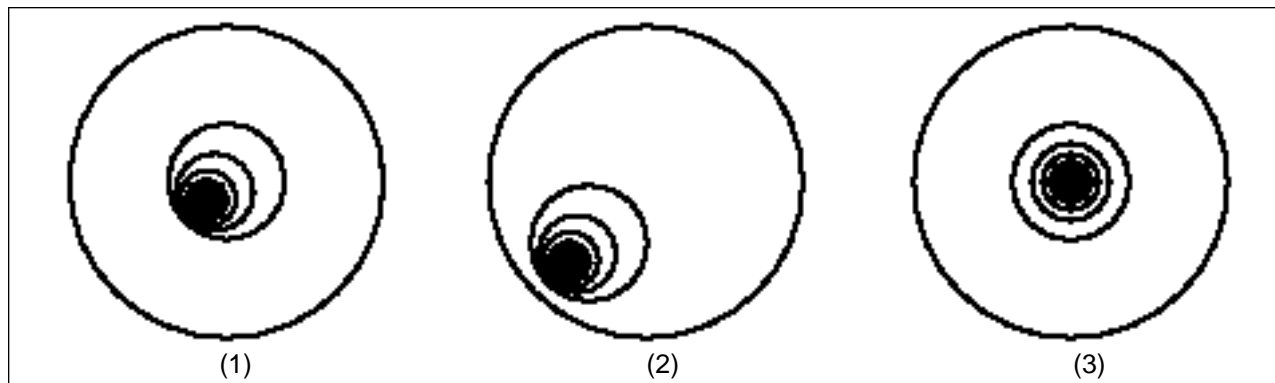

Fig.16: De-focused Star Images.
With the star or hot spot centered, de-focus the image. You will notice that the unfocused star image looks like a ring of light (the dark center of the ring is the shadow of the secondary mirror). Turn the focus knob until the ring of light fills about 1/8th of the eyepiece field. If you keep de-focusing the star past about one-eighth of a field, the ring looks perfectly concentric (as in 3, Fig. 16) even if the optics are out of alignment, thus preventing you from seeing any misalignments. If the ring of light does not appear concentric or if the dark center appears to be offset in the in the ring of light, follow this procedure:
(1), (2), (3) Set-screws for adjusting collimation.
2. While looking at the de-focused star image and noticing which direction the darker shadow is offset in the ring of light or noticing which part of the ring is the thinnest (1, Fig. 16), place your index finger in front of the telescope so that it touches one of the collimation set-screws. You will see the shadow of your finger in the ring of light. Move your finger (or have an assistant move a finger) around the edge of the black plastic secondary mirror support until you see the shadow of the finger crossing the thinnest part of the ring of light. At this point, look at the front of the telescope, where your (or your assistant's) finger is aiming. It is either pointing directly at a set-screw or it is between two set-screws aiming at the set-screw on the far side of the black plastic secondary mirror support. This is the set-screw that you will adjust.
3. Using the telescope's slow motion controls, move the de-focused image to the edge of the eyepiece field of view (2, Fig. 16), in the direction that the darker shadow is offset in the ring of light.
6. When you bring the image to center (3, Fig. 16), carefully examine the concentricity of the ring of light. If you find that the dark center is still off in the same direction, continue to make the adjustment in the original turning direction. If it is now off in the opposite direction, you have turned too far; turn in the opposite direction. Always double check the image in the center of the field of the eyepiece.